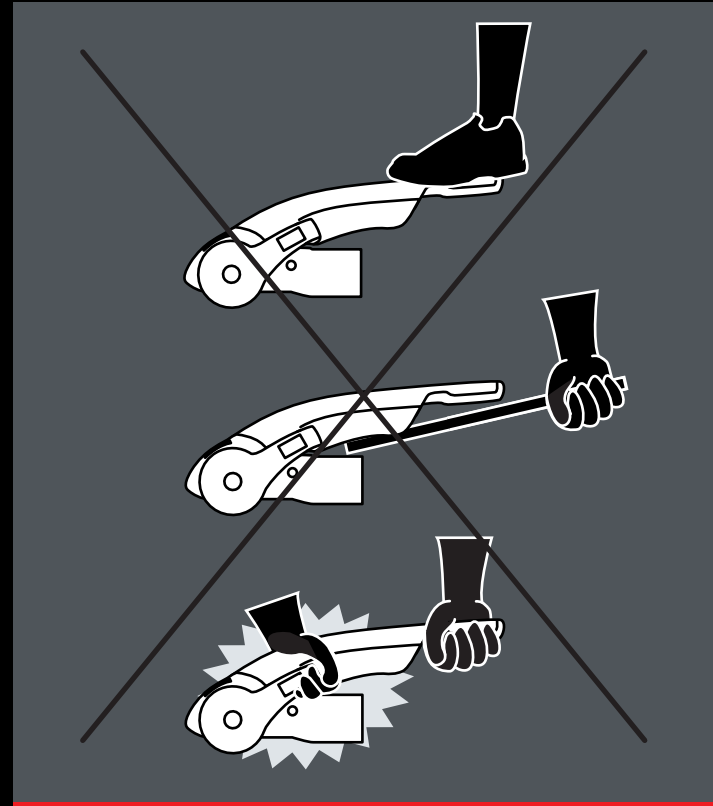

Fig 25 How NOT to operate the stabiliser handle
2. Press stabiliser lever down by hand force only DO NOT use your foot or an extension bar, this will damage the components (Fig 25).
3. When opening or closing the stabiliser lever, please ensure your hand does not touch the coupling handle - you may accidentally trap your fingers (Fig 25).